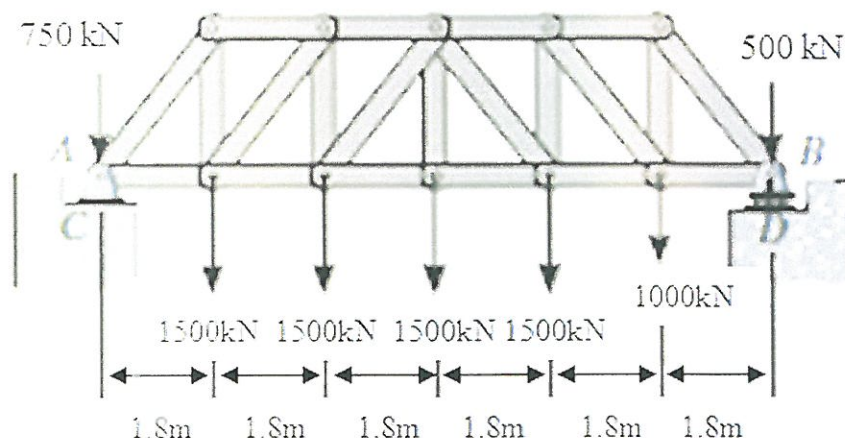

Figure1: A bridge truss
- (b) The pin support A and roller support B of the bridge truss are supported on concrete abutments as shown in Figure 1. The load applied at pin support A is 750 kN and at roller support B is 500 kN. If the bearing failure stress of the concrete is $(\sigma_{fail})_b = 25$ MPa. Determine the required minimum dimension of the square bearing plates at C and D to the nearest millimetre. Apply a factor of safety of 2 against failure.